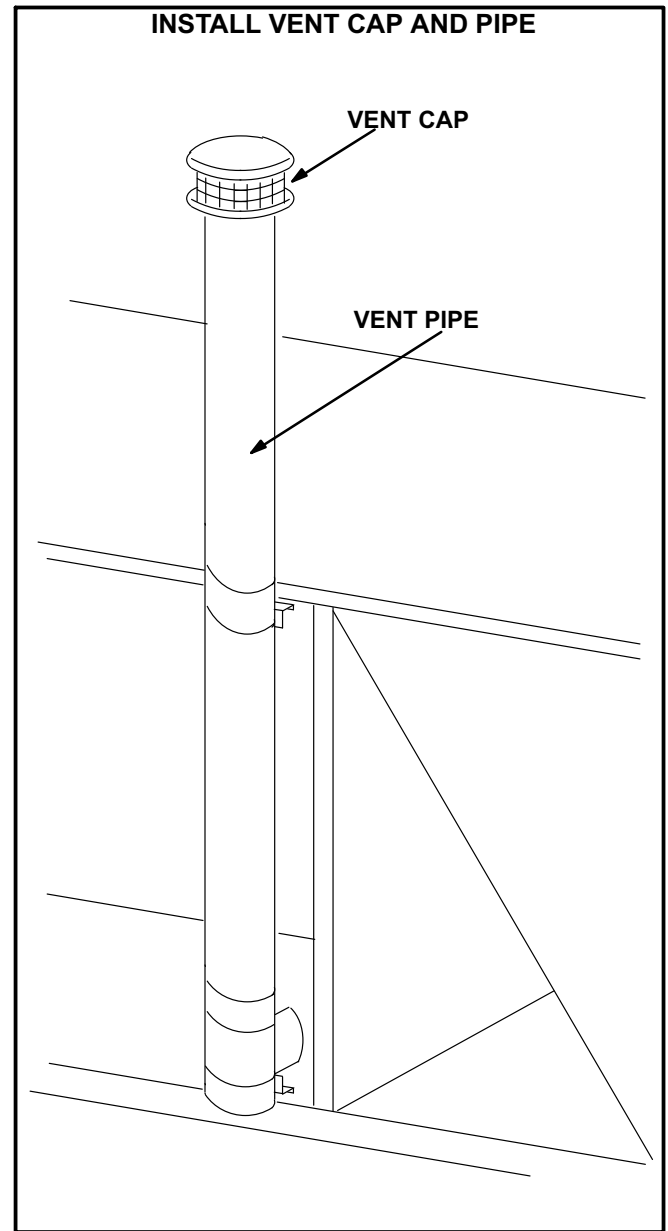

**FIGURE 8**
- 10- Slide bracket assembly over the top of installed vent pipe. Secure as shown in figure 8. Make sure bracket is as high on the door as possible but beneath unit top flange.